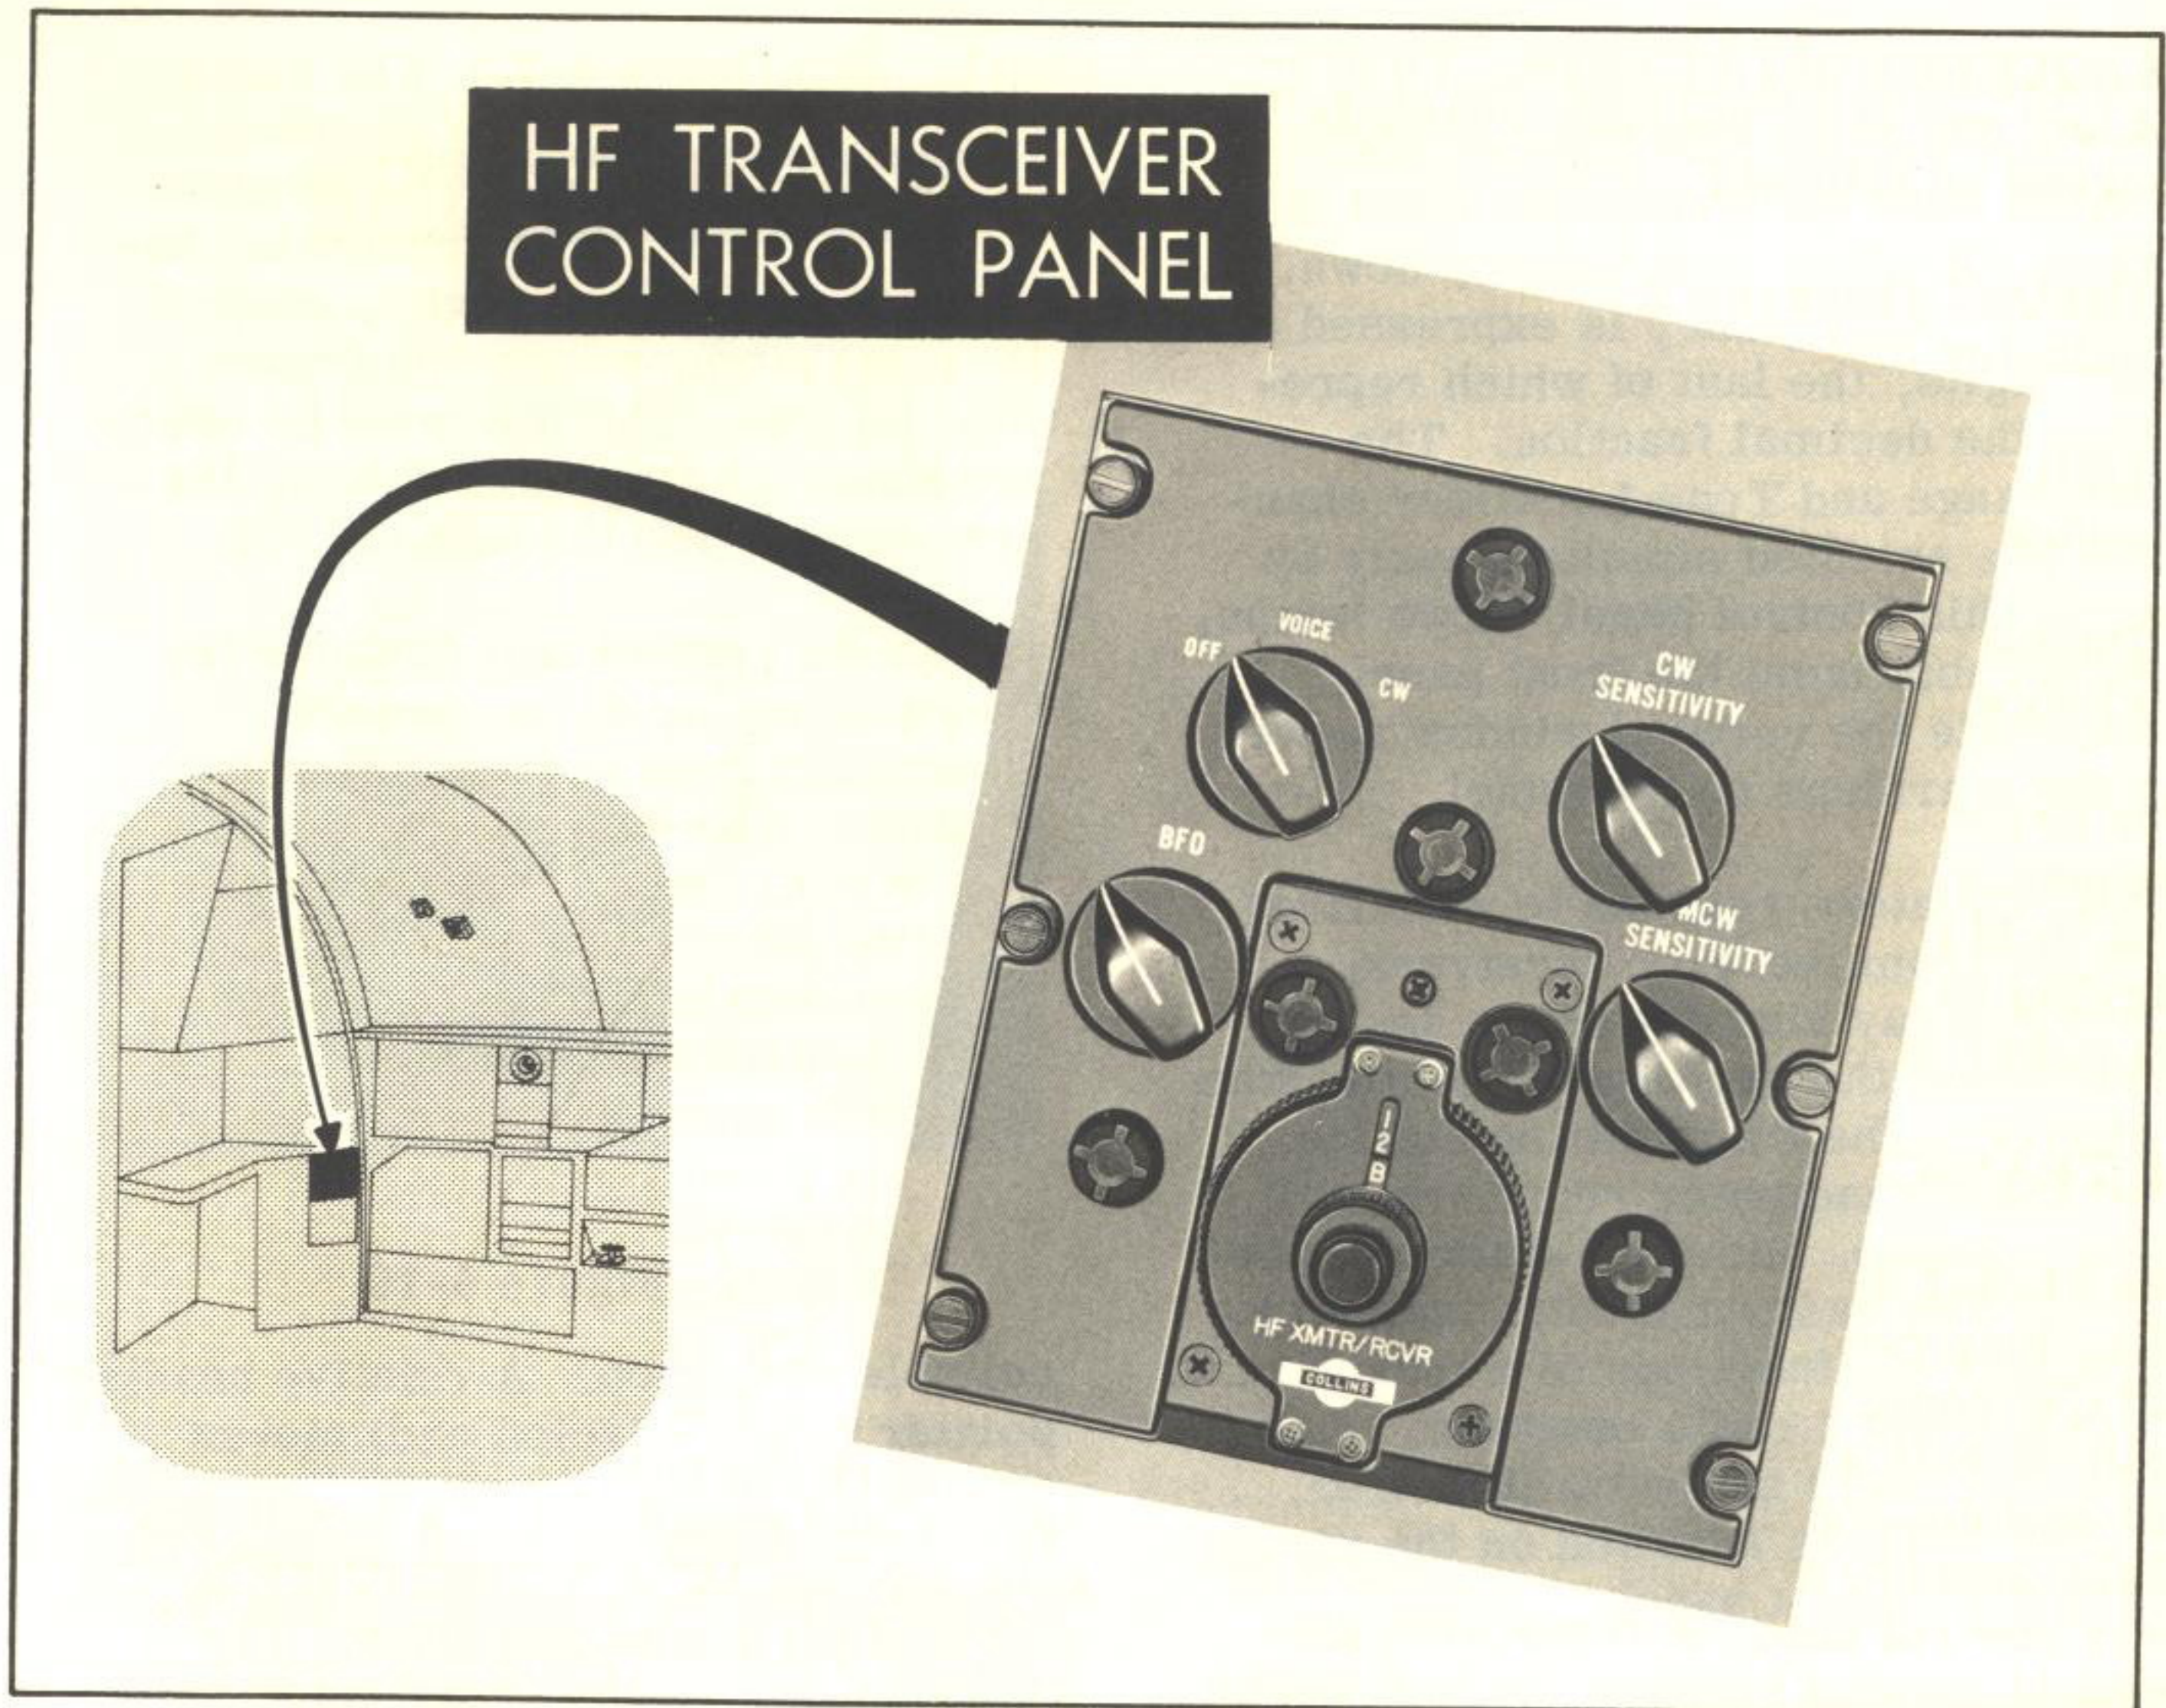

Figure 4-9
panel. (See figure 4-9.) The radio operator is the only crew member who can select the mode of operation (VOICE or CW), change channels, adjust MCW or CW sensitivity, control BFO (CW) pitch, or key the transmitter on CW. The ICS must be energized since all audio output from the transceiver is fed through the ICS.